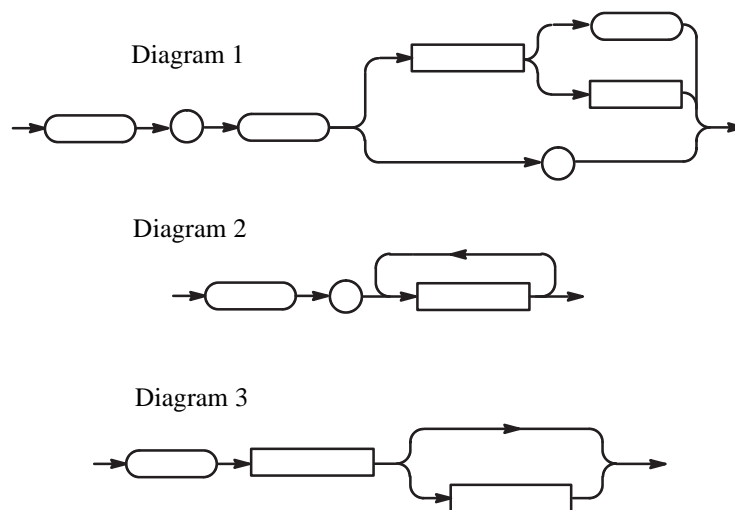

Figure 2-5: Typical syntax diagrams
The syntax of each command and query is explained by both syntax diagrams and BNF notation. Figure 2-5 shows some typical syntax diagram structures. The syntax diagrams are described by the following symbols and notation:
- Parallel paths show that only one of the paths can be taken in the command. See diagram 1 in Figure 2-5.
- A loop around an element(s) shows the element can be repeated. See diagram 2 in Figure 2-5.
- A path around a group of elements shows that those elements are optional. See diagram 3 in Figure 2-5.